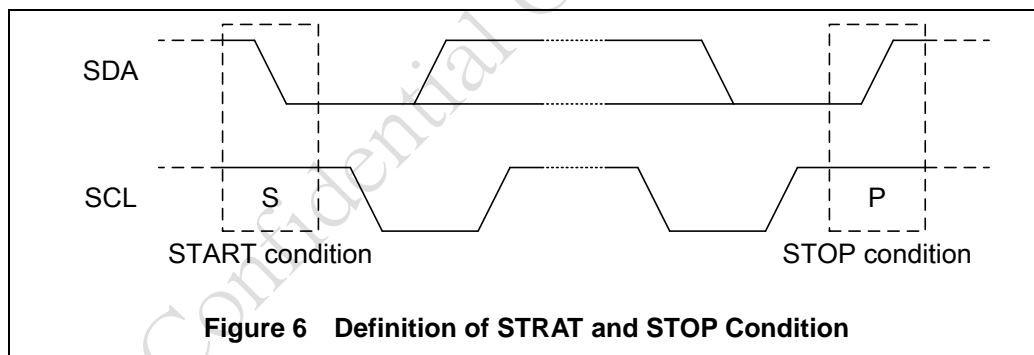

Figure 6 Definition of STRAT and STOP Condition
Both SDA and SCL lines remain HIGH when the bus is not busy. A HIGH-to-LOW transition of SDA, while SCL is HIGH is defined as the START condition (S). A LOW-to-HIGH transition of SDA while SCL is HIGH is defined as the STOP condition (P). The START and STOP conditions are illustrated in Fig 6.